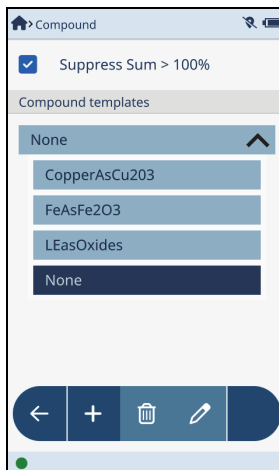

Figure 2-89 Compound screen
2. Tap the **None** down arrow in the **Compound Templates** section of the screen to display the list of existing templates (see Figure 2-89 on page 101).